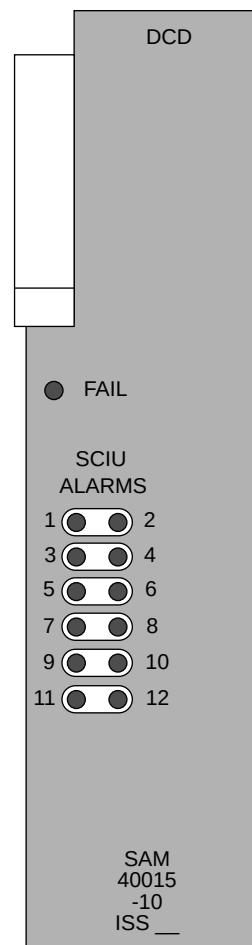

Figure 1. Front Panel
1.01 This practice provides information on the Telecom Solutions' SCIU Alarm and Monitor (SAM) card (p/n 090-40015-10). This practice contains includes wiring information for the DCD-CIM shelf (p/n 990-40000-25) which is specifically equipped for the SAM card (Figure 1).